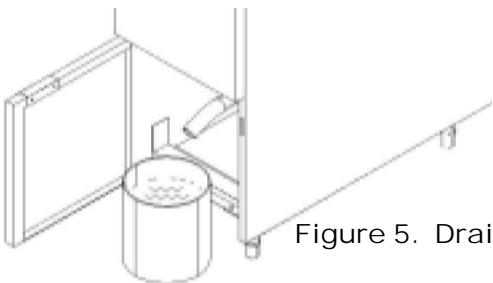

Figure 5. Draining The Kettle
4. Position the fryer on its side, exposing the bottom of the fryer (Figure 5).
7. Open the front door and mount the drain extension to the drain ball valve. Position a container (bucket) capable of holding **VERY HOT** cleaning solution beneath the end of the drain extension to hold the cleaning solution being drained, as shown in Figure 5.